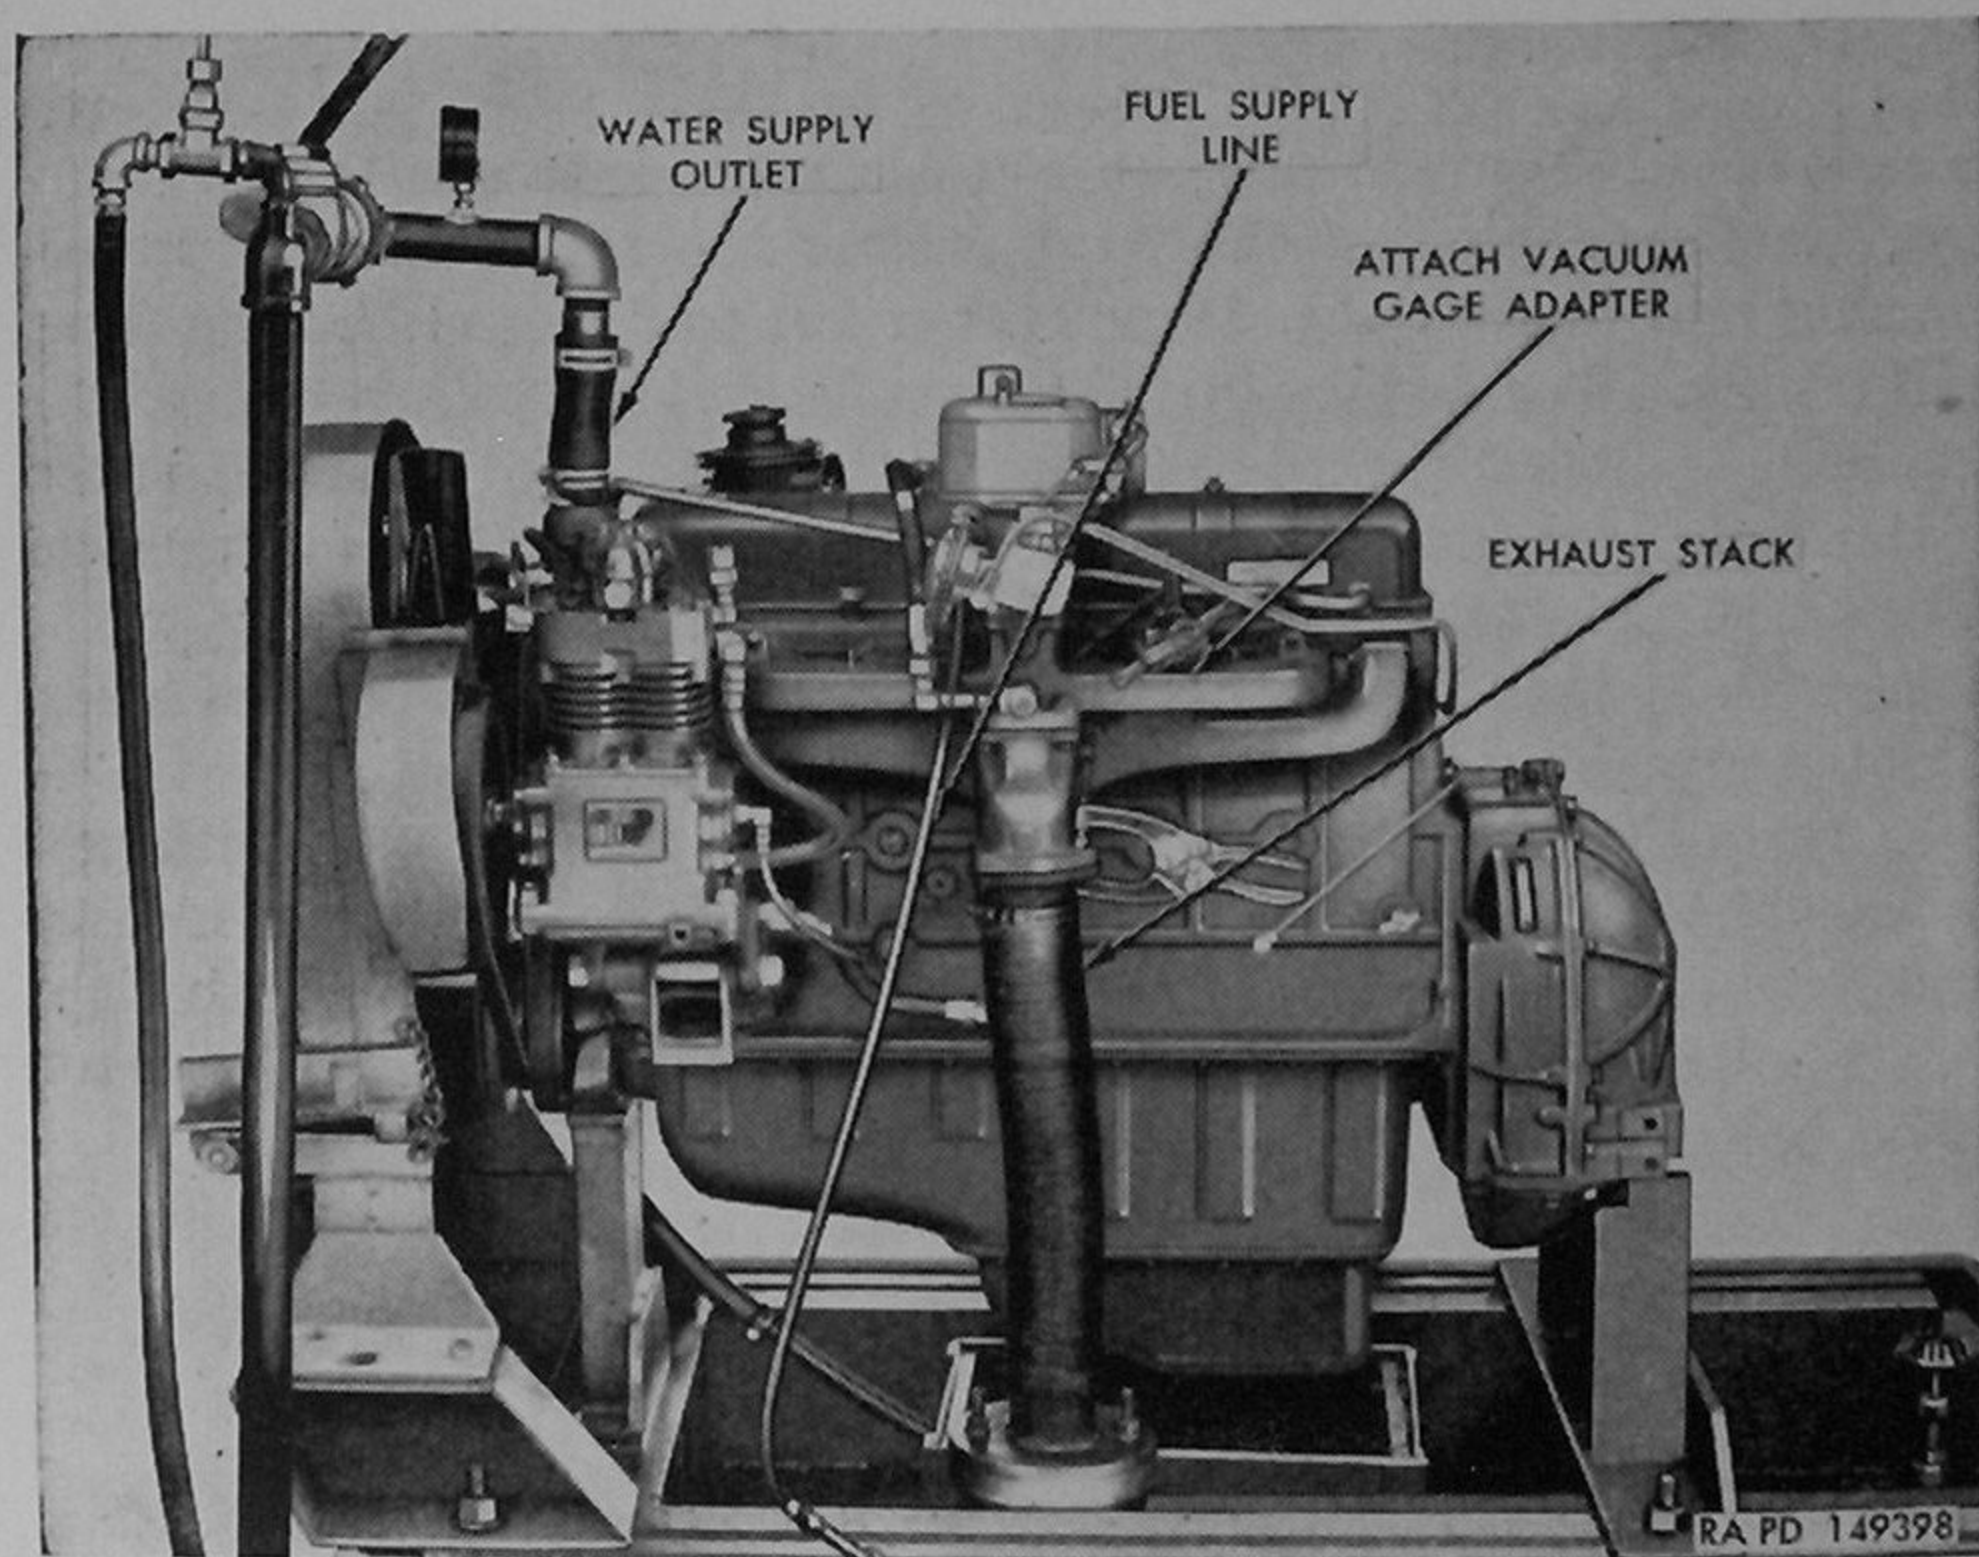

Figure 181. Engine assembly 7411599 in typical test stand (left side view).
a. *Test Stand.* A test stand similar to that illustrated in figure 181, 182, or 183 should be available. The stand should be rigidly mounted and equipped with holding brackets so that engine can be mounted and operated under its own power. A fuel and preheated water supply should be available, as well as an exhaust outlet to protect personnel. The test stand should also be equipped with an instrument panel with standard temperature gage, oil pressure gage, and battery charge indicator. In addition, an electric tachometer, vacuum gage, and timing light, with suitable adapters, must be used.